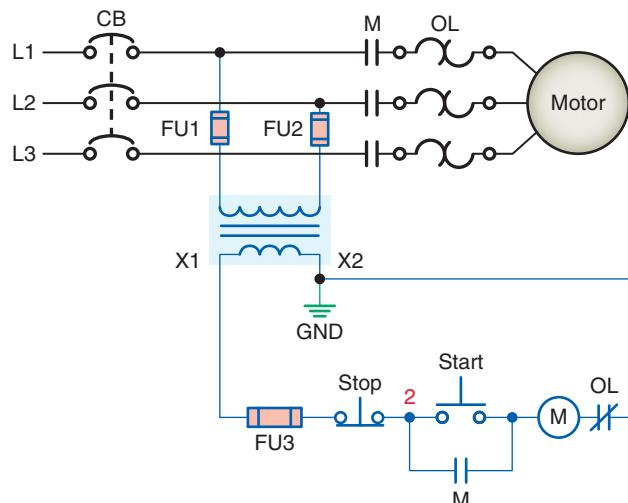

Figure 3-40 Circuit for review question 5.
- For the motor control circuit of Figure 3-40, assume the circuit is *incorrectly* grounded at X1 instead of correctly as shown at X2. With this incorrect connection, explain how the control circuit would operate if point 2 of the stop or start push button were to become accidentally grounded.